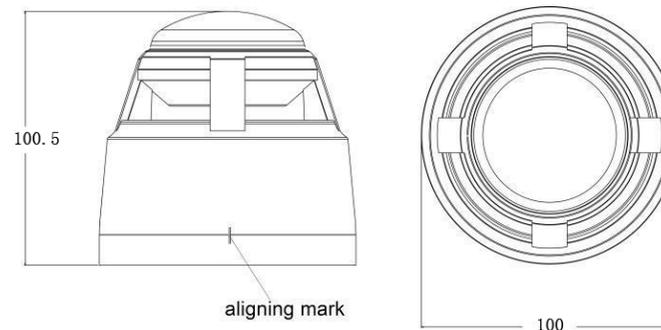

Fig.1
10. Dimension: φ100mm×100.5mm (with base), See Fig1.